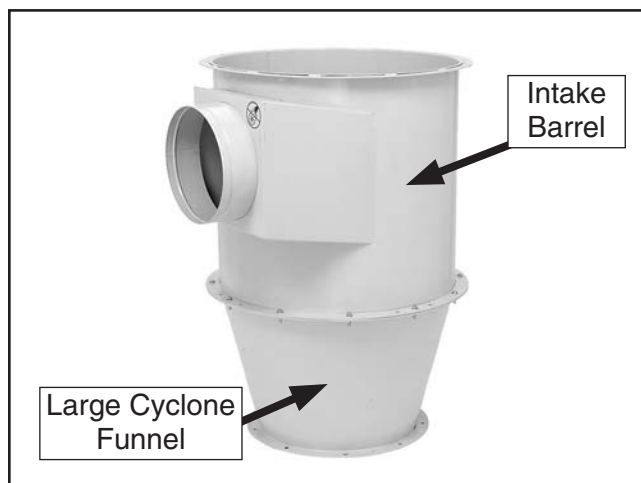

Figure 23. Intake barrel and large cyclone funnel.
12. Connect the intake barrel and large cyclone funnel with (12) $\frac{5}{16}$ "-18 x $1\frac{1}{4}$ " hex bolts, (24) $\frac{5}{16}$ " flat washers, and (12) $\frac{5}{16}$ "-18 hex nuts in the mounting holes—excluding the left and right hole of the groups of three (see **Figure 23**).